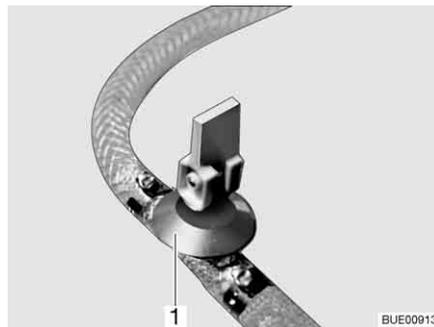

Fig. 191 Drain cock
- Close the drain cock(s). Position the rocking lever (Fig. 191,1) horizontally.
- Open drain cock(s) (Fig. 191). To do so, set the rocking lever (Fig. 191,1) in a vertical position. The boiler is drained to the outside.